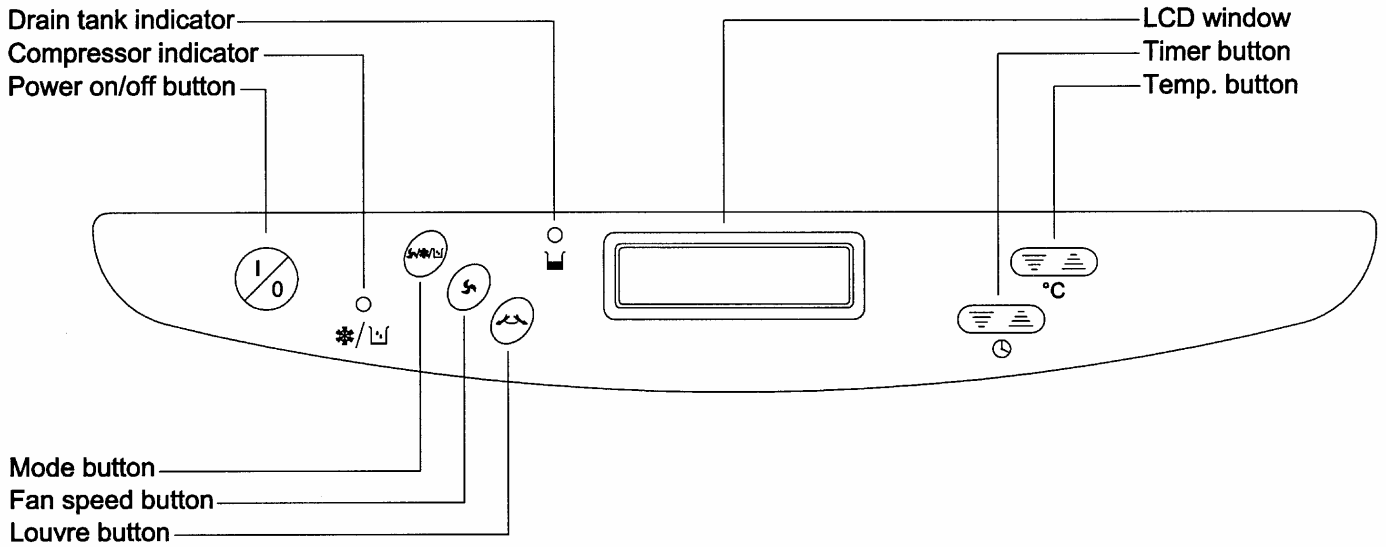
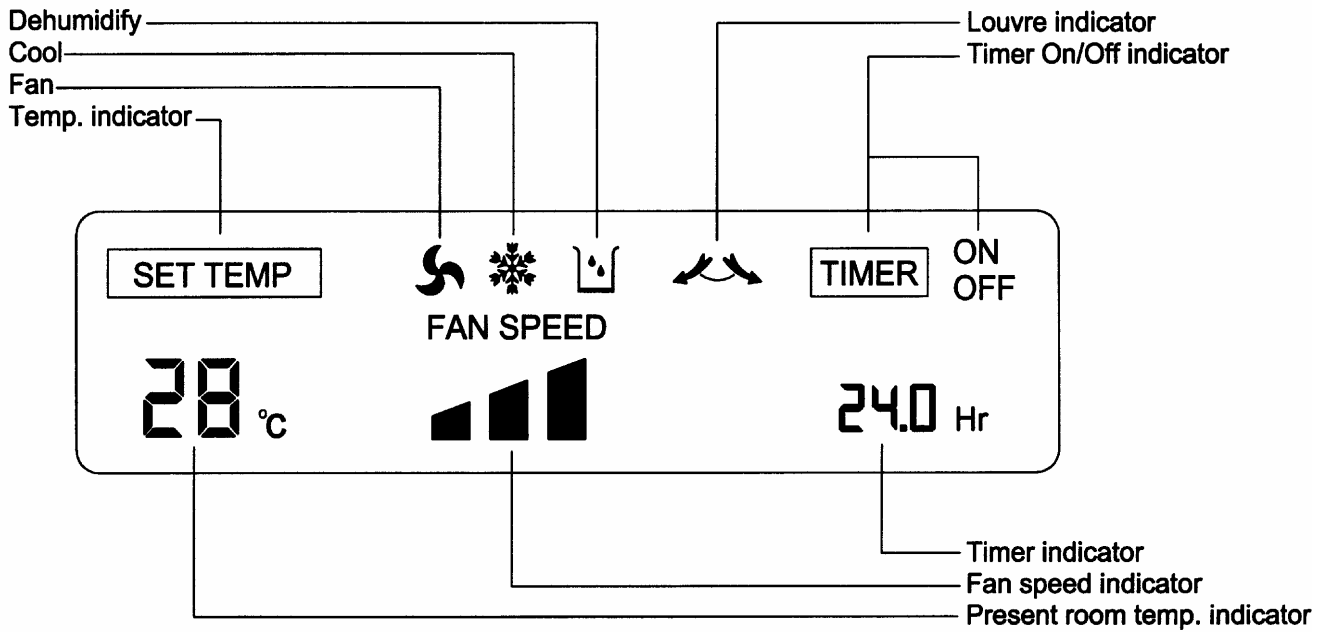

Fig 1
Fig 2
Control panel functions (Read in conjunction with Fig1 & Fig2)
- 3) Press the "Mode button" (fig 1) until the cool (snowflake) symbol appears in the LCD window.
- 4) Press the "Temp. button" (fig 1) to select the desired temperature in °C (16°C-30°C).
- 3) Press the "Mode button" (fig 1) until the dehumidify (beaker with dripping water) symbol appears in the LCD window.
- 1) Press the "Mode button" (fig 1) until the fan (impeller) symbol appears in the LCD window.
- 2) Press the "Fan speed button" (fig 1) to select the desired speed low, medium or high.
- 1) To set the time for starting the unit proceed as follows. When the unit stops (but power is still on) press the "Timer button" (fig 1). The LCD window will display the words "**TIMER ON**". Set the time to the desired amount of hours (min 0.5 Hr max 24 Hr).
- 2) To set the time for stopping the unit proceed as follows. When the unit is running press the "Timer button" (fig 1). The LCD window will display the words "**TIMER OFF**". Set the time to the desired amount of hours required.
- 1) Press the "Louvre button" (fig 1). The LCD window will display 2 arrows opposing each other, and the unit will automatically start to vary the airflow direction.